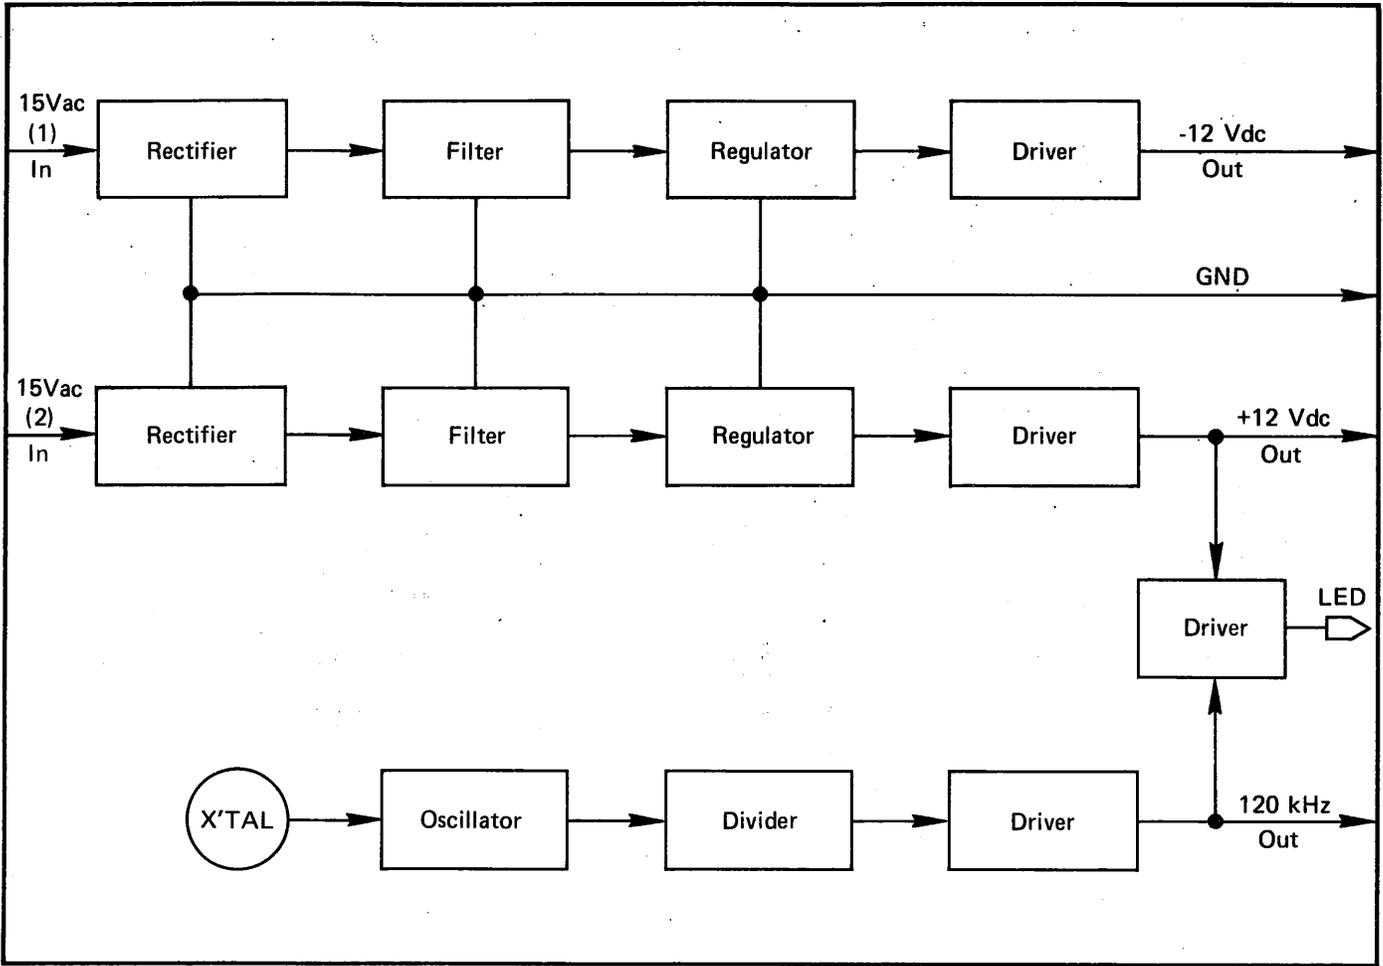

Figure 5-1. Power Supply Board Block Diagram
5.02 Figure 5-1 shows a block diagram of the power supply board. The 15 Vac from each of the two secondary windings of the power transformer mounted on the shelf rear panel is rectified and filtered. Integrated circuit regulators generate ±12 volts regulated dc; their current drive capabilities are augmented by transistors, with short circuit current limiting